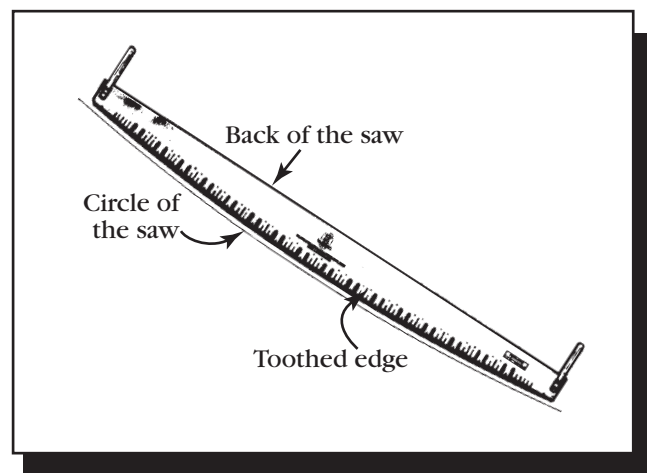

Figure 5-10—Circle (or arc) of the saw.
*Jointing:* After the saw has been cleaned and straightened, jointing is the first step in sharpening. A tool called a *jointer* holds the file. The points are filed off the cutter tips so that each of them lies on the circle of the saw (figure 5-10).